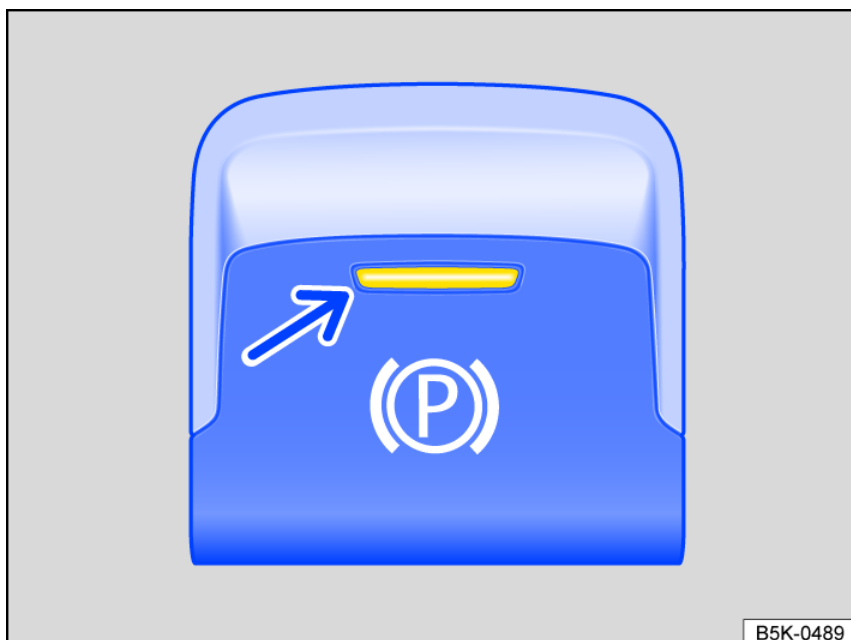

Fig. 117 In the center console: button for the electronic parking brake (general example).
The yellow indicator light in the button comes on *fig. 117*.
- The indicator light in the *fig. 117* switch and the red  or **PARK** indicator light in the instrument cluster go out.